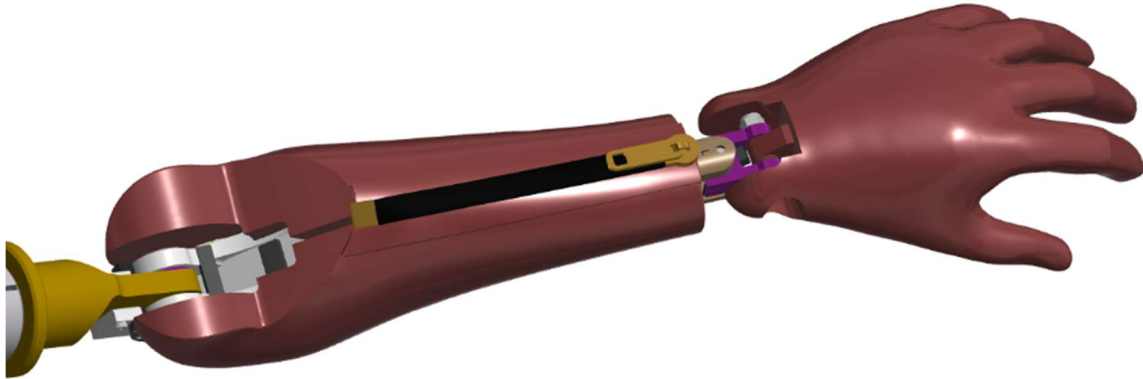

Figure 11-40. Zip the Lower Arm Flesh (474-6525-1,2)
11.3.16 Zip the Lower Arm Flesh (474-6525-1,2) onto the Lower Arm (Figure 11-40).